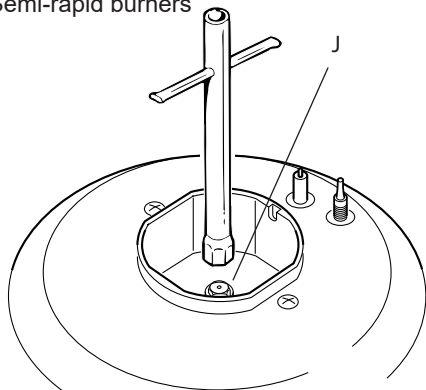

Fig. 2.5
- Using a wrench, substitute the nozzle injectors “J” (figs. 2.5, 2.6, 2.7) with those most suitable for the kind of gas for which it is to be used.